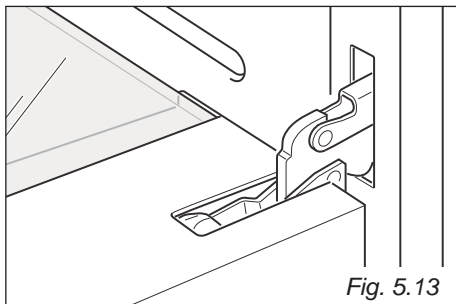

Fig. 5.13
- Open the door to the full extent (fig. 5.13).